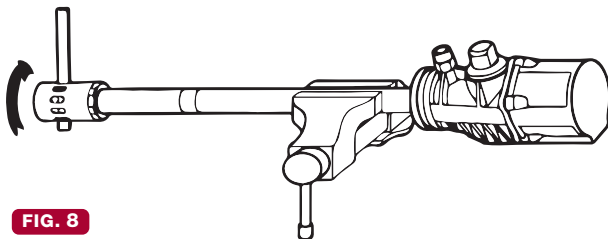

FIG. 8
2. Unscrew the intake filter tube (42) from the intake filter head (39) (fig. 8).
2. Skruva bort filterröret (42) från muttern (39) (fig 8).